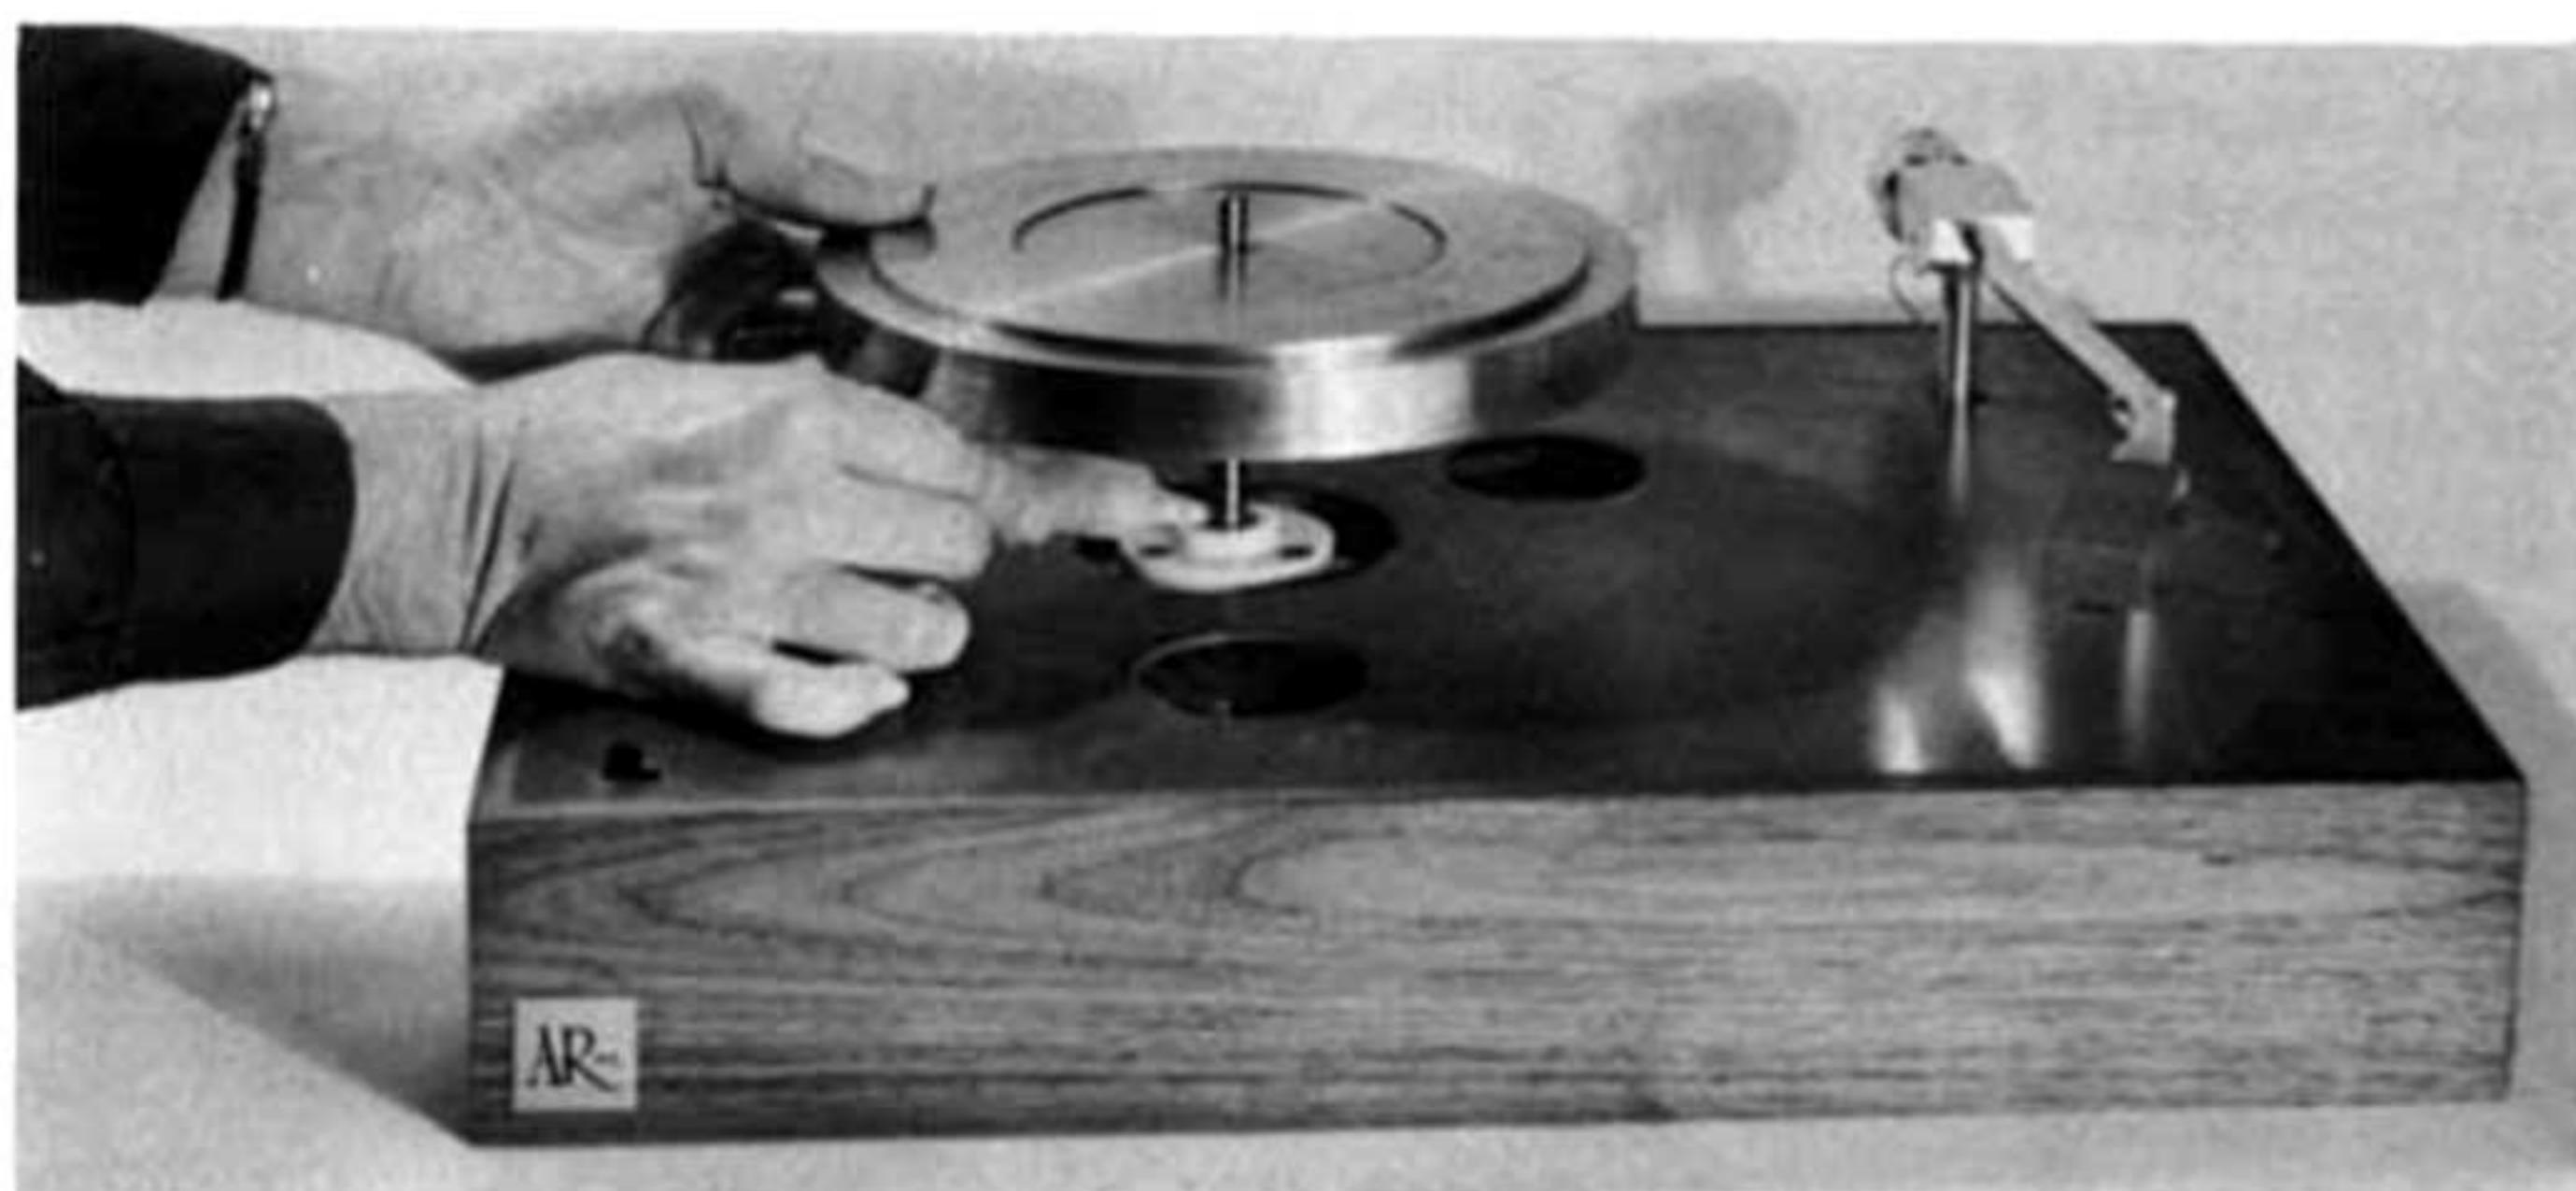

Figure 8
b. Remove the outer aluminum platter and the main drive belt. Lift the inner platter about 2 inches (it is not necessary to remove the platter from the bearing) and oil the dark gray foam washer at the top of the main bearing. (See Figure 8.)